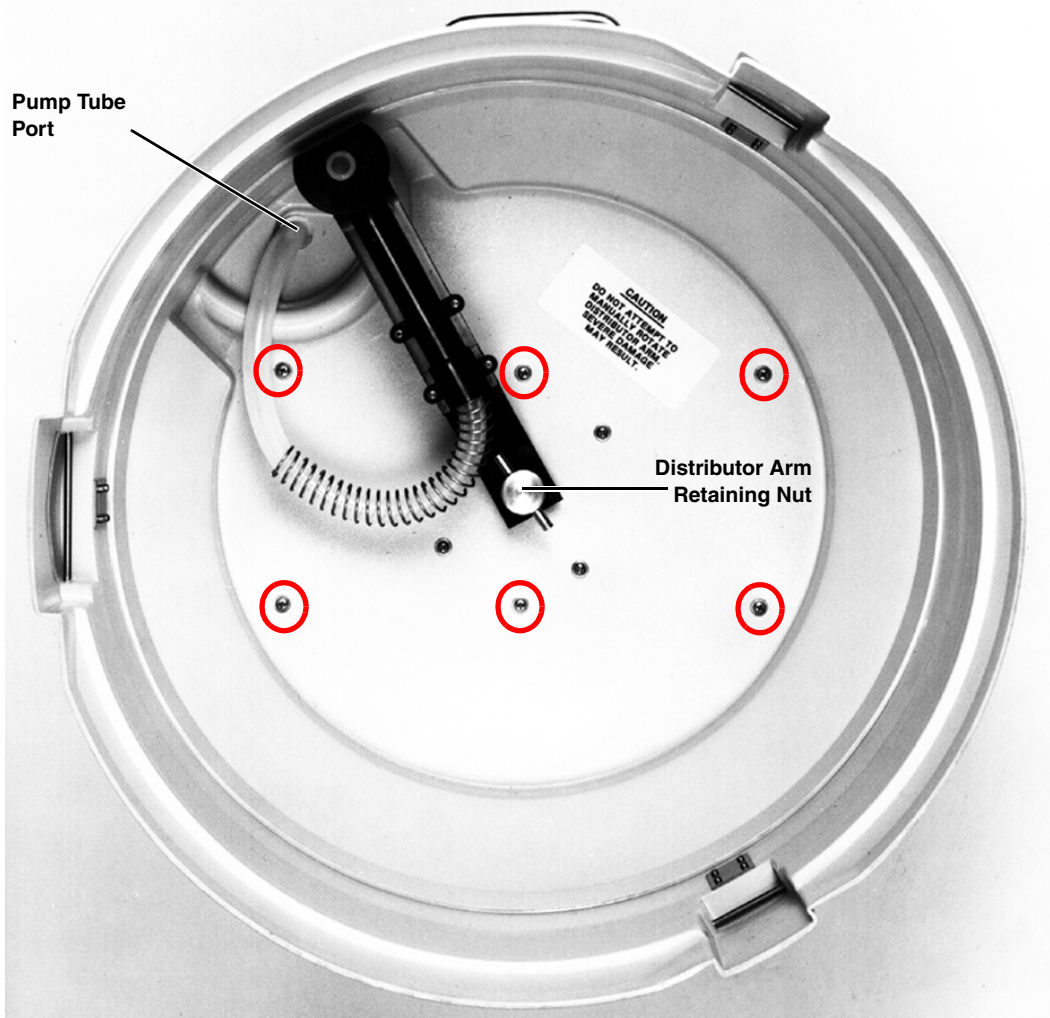

Figure 6-1 Unscrewing the Control Box from the Center Section
3. Remove the suction tube from the pump, and turn the center section over, as shown in Figure 6-1.
4. Unscrew the distributor arm retaining nut, indicated in Figure 6-1, and pull the arm off the distributor shaft.
6. You can then remove the control box by unscrewing the six screws indicated in Figure 6-1, and lifting the center section off the control box.